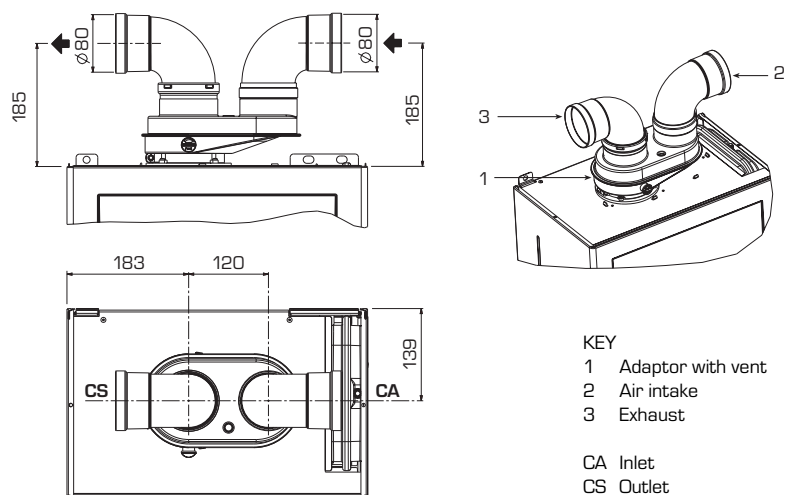

Fig. 7
2.6 INSTALLATION OF SEPARATE DUCTS ø 80 (fig. 7)
The kit with dedicated pipes enables to separate the exhaust fumes pipes from the air suction pipes (fig. 7):